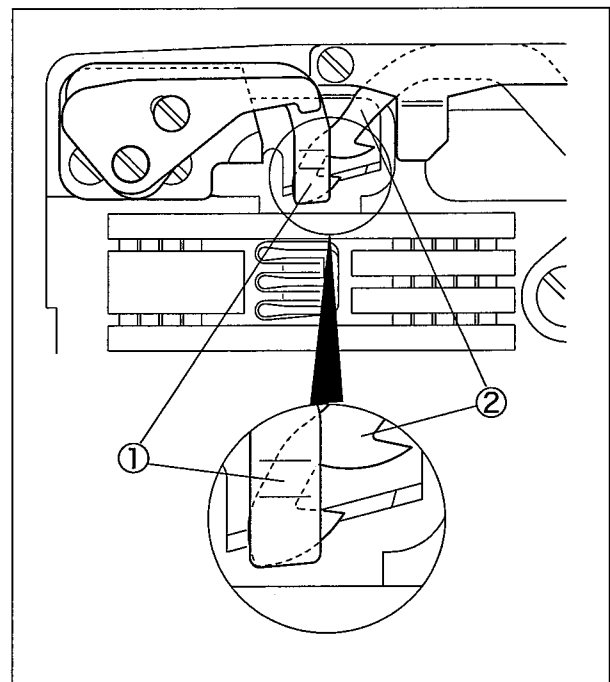

Fig. 32
Make adjustment on the direction "Y" to match the tip of the movable trimming knife ② with the tip of the thread clamp ① and tighten the screw ⑤, after the movable knife returned. (Fig. 32)